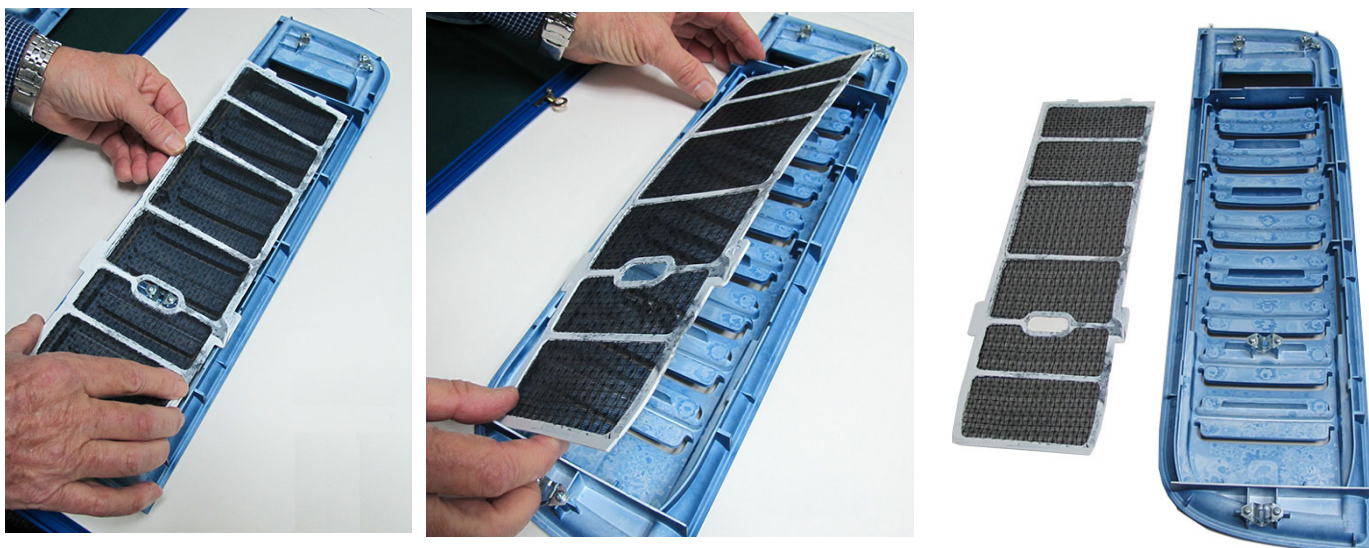

Figure 8-4 Removing the Air Filter from the Air Inlet Cover
- 3.) Release the filter from the securing tabs, then lift it up and remove from the cover- Figure 8-4.